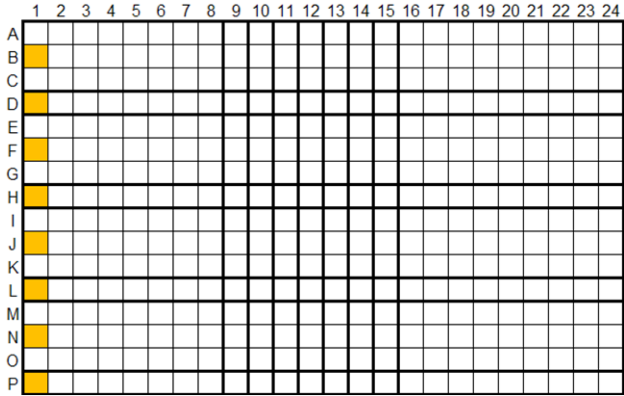

Figure 7 384 deep well plate for CGH+SNP Enzymatic Labeling containing Restriction Digestion Master Mix in quadrant 3
- 3** In a 384 deep well plate, add Restriction Digestion Master Mix to 8 wells in quadrant 3 (location B1, D1, F1, H1, J1, L1, N1, and P1). See Figure 7.